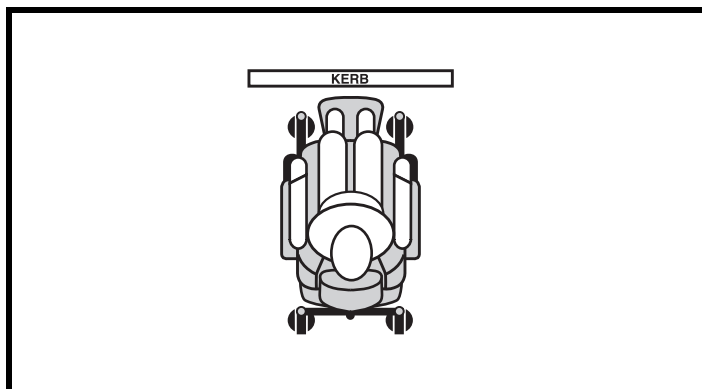

Figure 2. Correct Kerb Approach
Proceed with extreme caution when driving near raised surfaces, unprotected ledges, and/or drop-offs (kerbs, porches, stairs, etc.). Be sure your power chair is traveling perpendicular to any kerb you are required to navigate. See figure 2.
1. Approach the kerb or obstacle slowly, and make sure the power chair is traveling perpendicular to the obstacle. See figure 2.